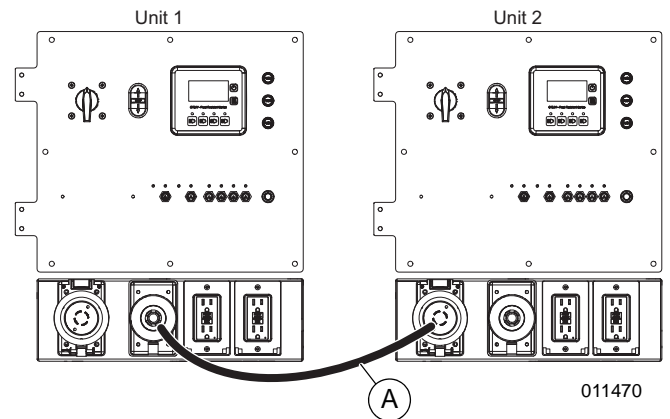

Figure 3-1. Connecting Two Units
See **Figure 3-1**. Supply power from unit 1 to unit 2 by connecting a cable (A) as illustrated.